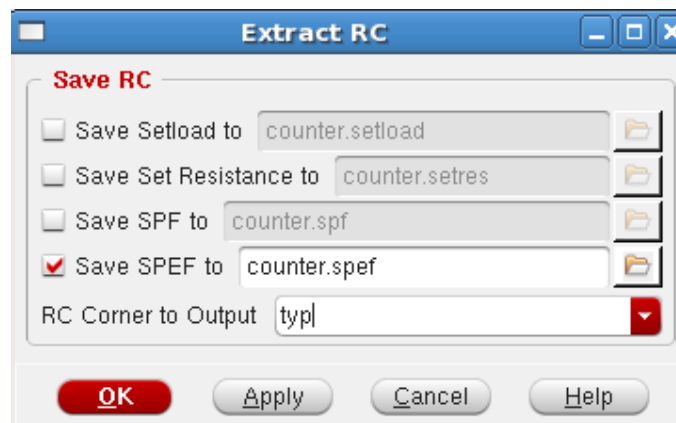

Figure Lab8-12 RC Extraction
13. **Timing**→**Extract RC** (as shown in Figure Lab8-12) to extract R and C of all the wires.